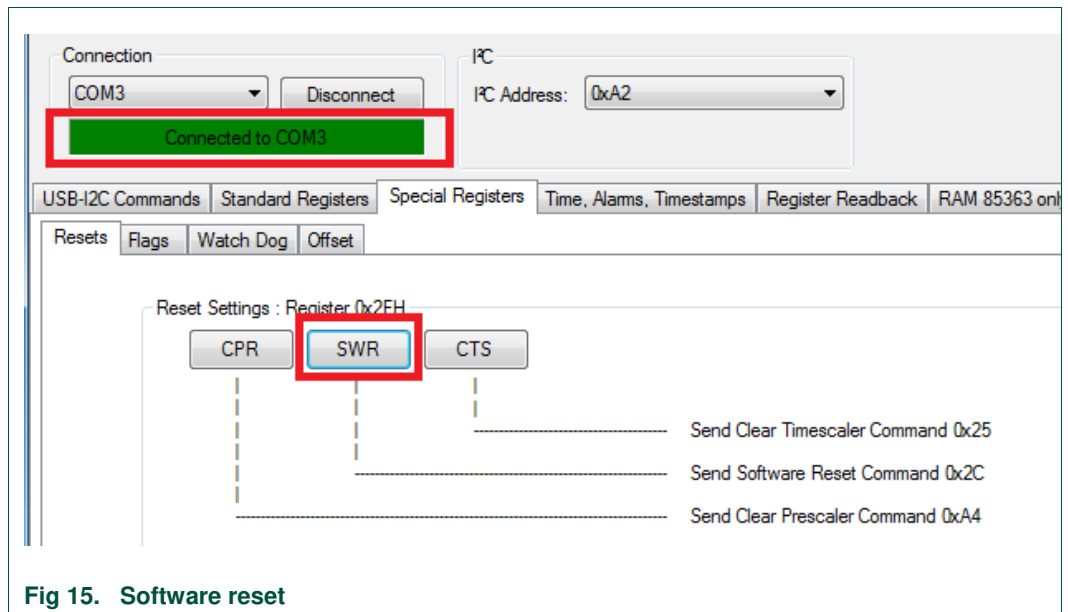

Fig 15. Software reset
1. Perform a Software reset: *Reset* tab, function *SWR* (see Fig 15).